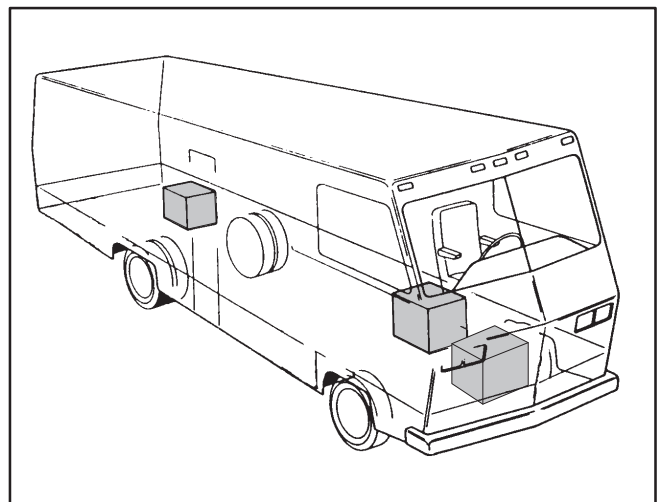
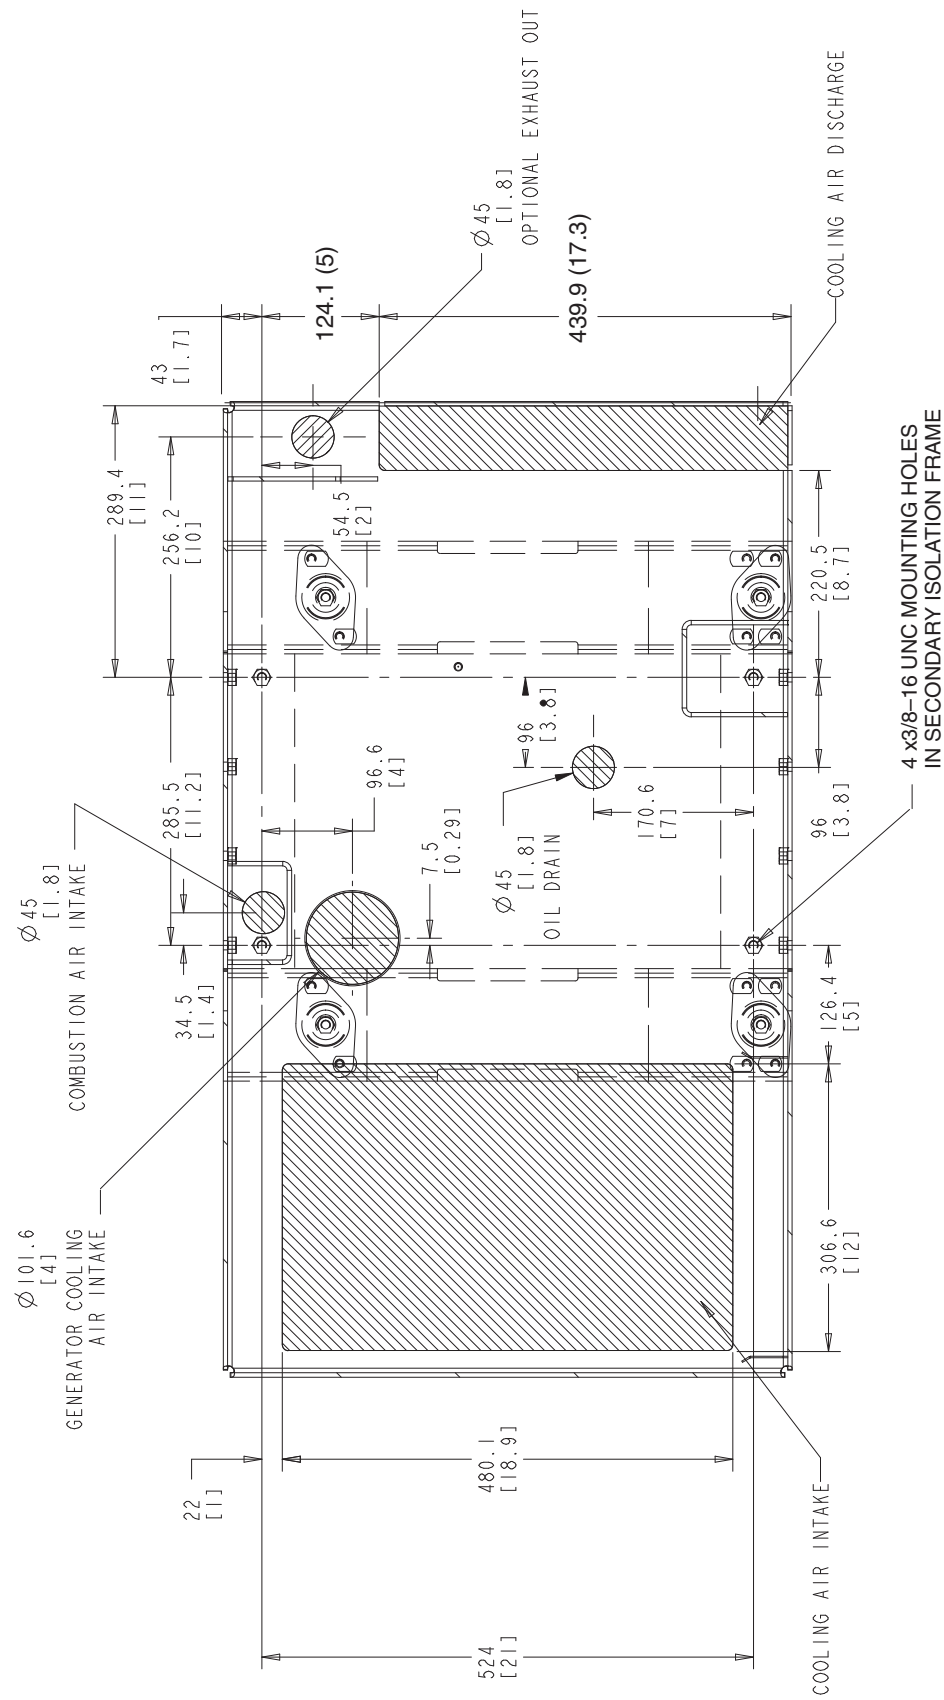

FIGURE 1. TYPICAL GENSET LOCATIONS
FIGURE 2. GENSET OUTLINE—FLOOR PLAN
Typical genset locations on a recreational vehicle are illustrated in Figure 1. See the Outline Drawings (Figures 2 through 5)) for the dimensions of the genset and the locations of the mounting bolt holes, inlet and outlet air openings, oil drain plug, service access doors and connection points (fuel, battery, remote control, AC, exhaust). See your Onan dealer for a large-scale outline drawing and a floor template to locate the opening cutouts.
6. Provide cutout openings in a compartment floor that are at least as large as the cooling and combustion air inlet and outlet openings in the bottom of the genset (shaded areas in Figure 2). Frame cross members must not cut across the openings.
Outline Drawings (Figures 2 through 5) show the dimensions of the exhaust flange and the locations of the tailpipe clearance holes.